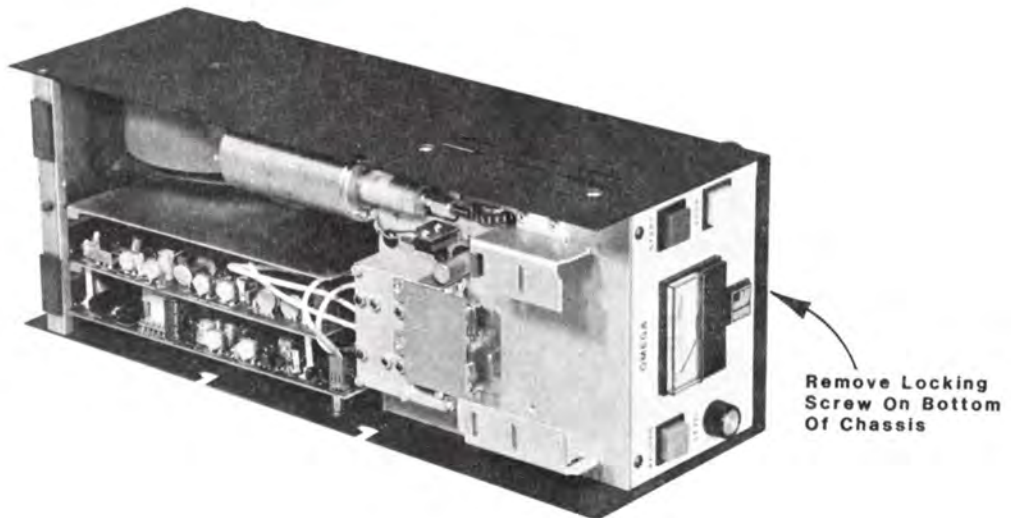

Fig. 5-6
C. The front panel is fastened to the chassis by a locking screw installed from the bottom. Remove this screw. Figure 5-6.